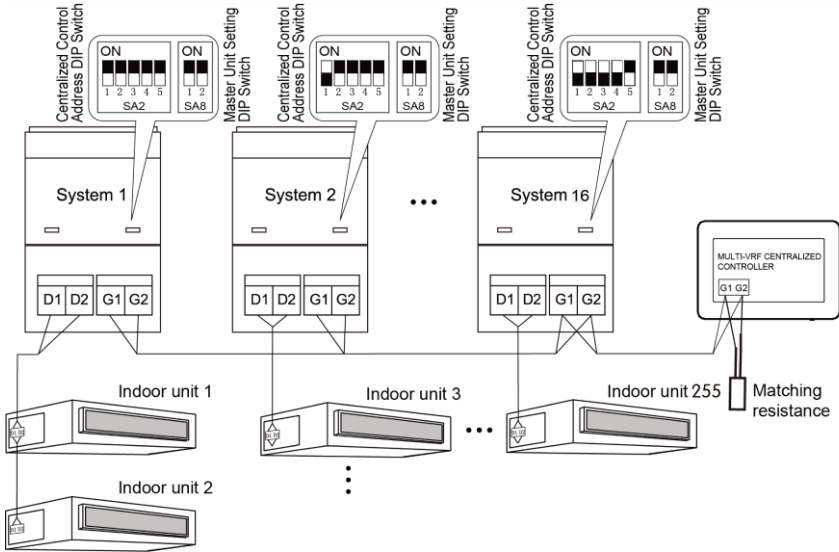

Fig.1.5 Centralized Controller Connected with Outdoor Network
c. If the centralized controller is to be connected with the network of outdoor units, connect according to fig.1.5. The centralized controller can only be connected with the terminal system of the outdoor network. A matching resistance needs to be added with the communication cords at the G1 and G2 ports.